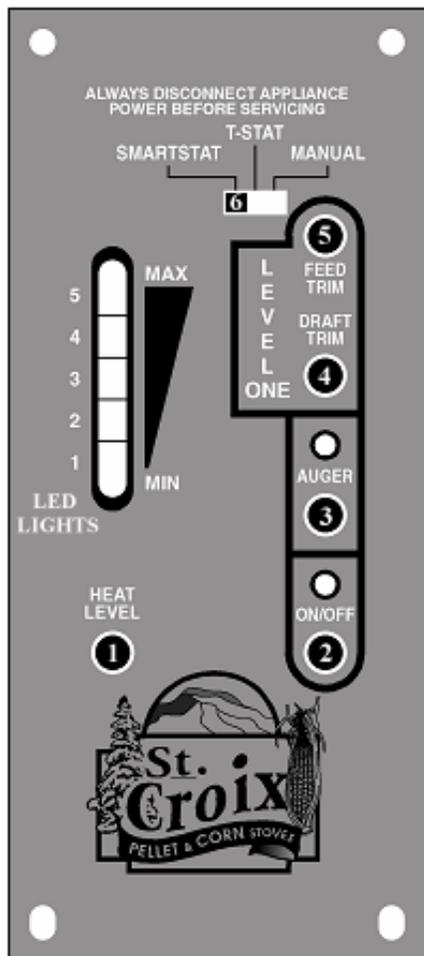
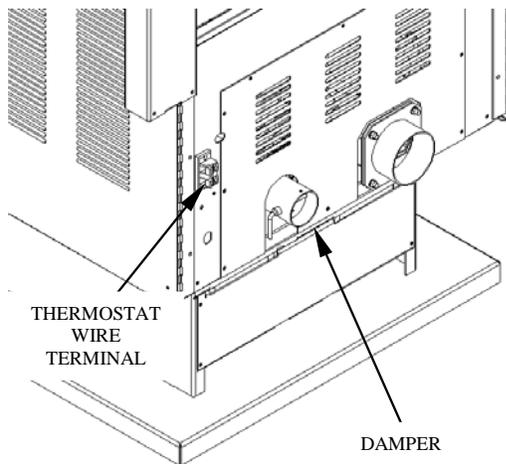

Figure 2
Figure 3
The Hastings is approved to burn a mixture of pellets and corn (maximum 50% corn). The Thermostat Switch should be set to the Manual position. (See Fig. 2 on page 5) Operation of the stove doesn't change when burning a mixture of pellets and corn. The burn pot will need to be cleaned on a daily basis, using the "Pot Scraper Tool" shown in figure 3 on page 8. Use the Pot Scraper Tool to remove any clinkers that build up because of the corn when needed. For more information, read the Daily, Periodic and Yearly Maintenance section towards the back of this manual.
A closer look at the Control Board on page 5, in figure 2 will explain how the board works. There are five buttons labeled 1 through 5, a slide switch labeled 6 and a LED Light bar with 5 Heat Settings. ***The LED Light bar is also used during the Diagnostic process, see page 6 and 7 for more details.***
The buttons on the board function as follows: (*Refer to Figure 2. The touch pad buttons and Slide Switch are labeled with the white numbers 1 through 6*)
Lighting Your Stove. (Refer to Figure 2)
Shutting The Stove Off (*Refer to Figure 2*)
The #2 LED and the #3 LED lights on the LED Light bar as show in Figure 2 will flash to give a
1. The **Proof of Fire** switch. This switch will sense the temperature of the Exhaust rising during start up. If the Exhaust temperature does not reach 110 degrees F, or if during use the temperature drops below 110 degrees F, the Stove will go into **“Internal Alarm”** and the Auger will quit feeding fuel. Once the stove completes the safety shutdown, the #3 LED will start blinking. *(See Figure 2 on Page 5 and point 3 on page 15)*
2. The **High Limit** switch. This sensor will sense if the unit reaches temperatures that are too high for normal operation. If this happens the Auger will quit feeding and the #2 and #3 LED lights will flash simultaneously. *(See Figure 2 on Page 5 and point 4 on page 16)*
3. The **Vacuum** Switch - For the stove to operate, the Firebox needs to be sealed. During the first 30 seconds after the stove has been turned on the Control Board will check if the switch senses negative pressure (Vacuum) in the Firebox of the stove. If there is no negative pressure, the stove will shut down and the #2 LED will start blinking. *(See Figure 2 on Page 5 and point 2 on page 15).*